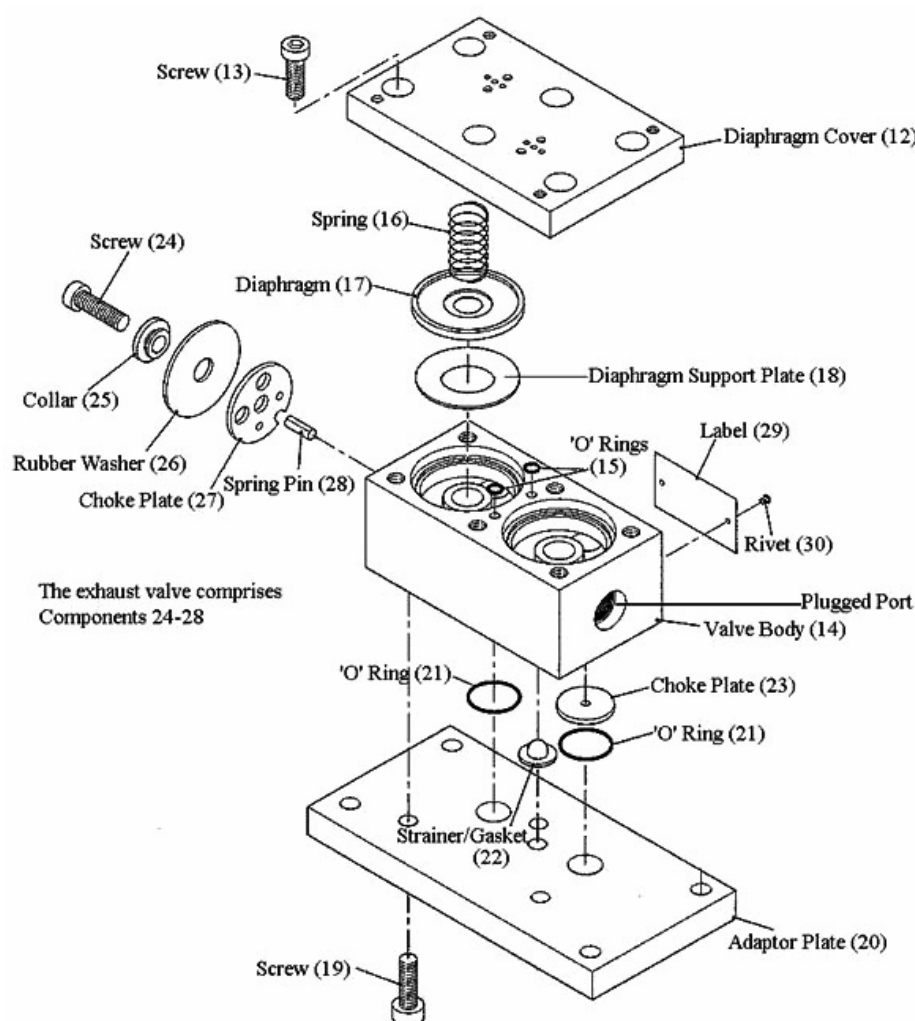

Figure 2: Westinghouse WSP Dump Valve
- 1.8 Referring to Figure 2, remove screws (19) and separate adaptor plate (20) from the valve body (14).
- 4.3 Referring to Figure 2, position two new 'O' rings (15) in their recesses in diaphragm cover (12).